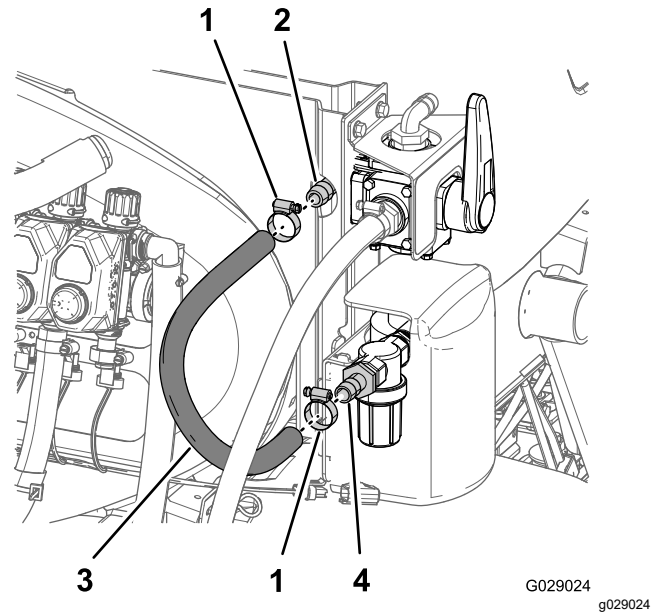

Figure 44
1. Assemble the hose 1.9 x 61 cm (3/4 x 24 inch) over the 90° barbed fitting at the inboard side of the 4-way valve (Figure 44).
2. Secure the hose to the fitting with a hose clamp (Figure 44).
3. Assemble the free end of the hose over the straight-barbed fitting and secure the hose to the fitting with a hose clamp (Figure 44).